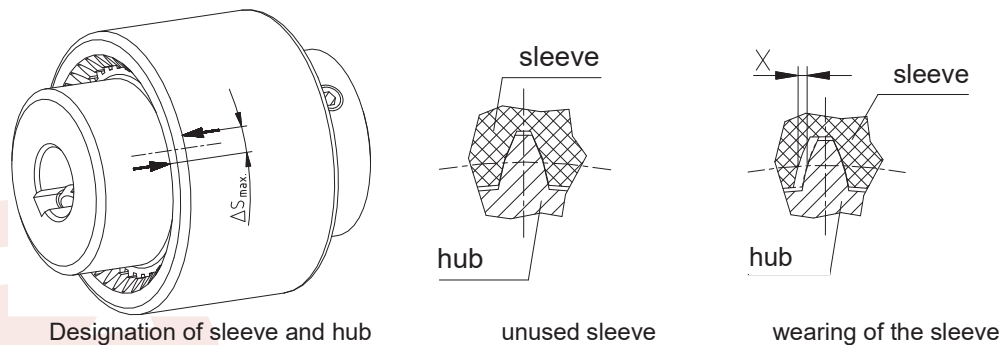

Figure 7.1
- Apply designation on sleeve and hub (see Figure 7.1 7.1).